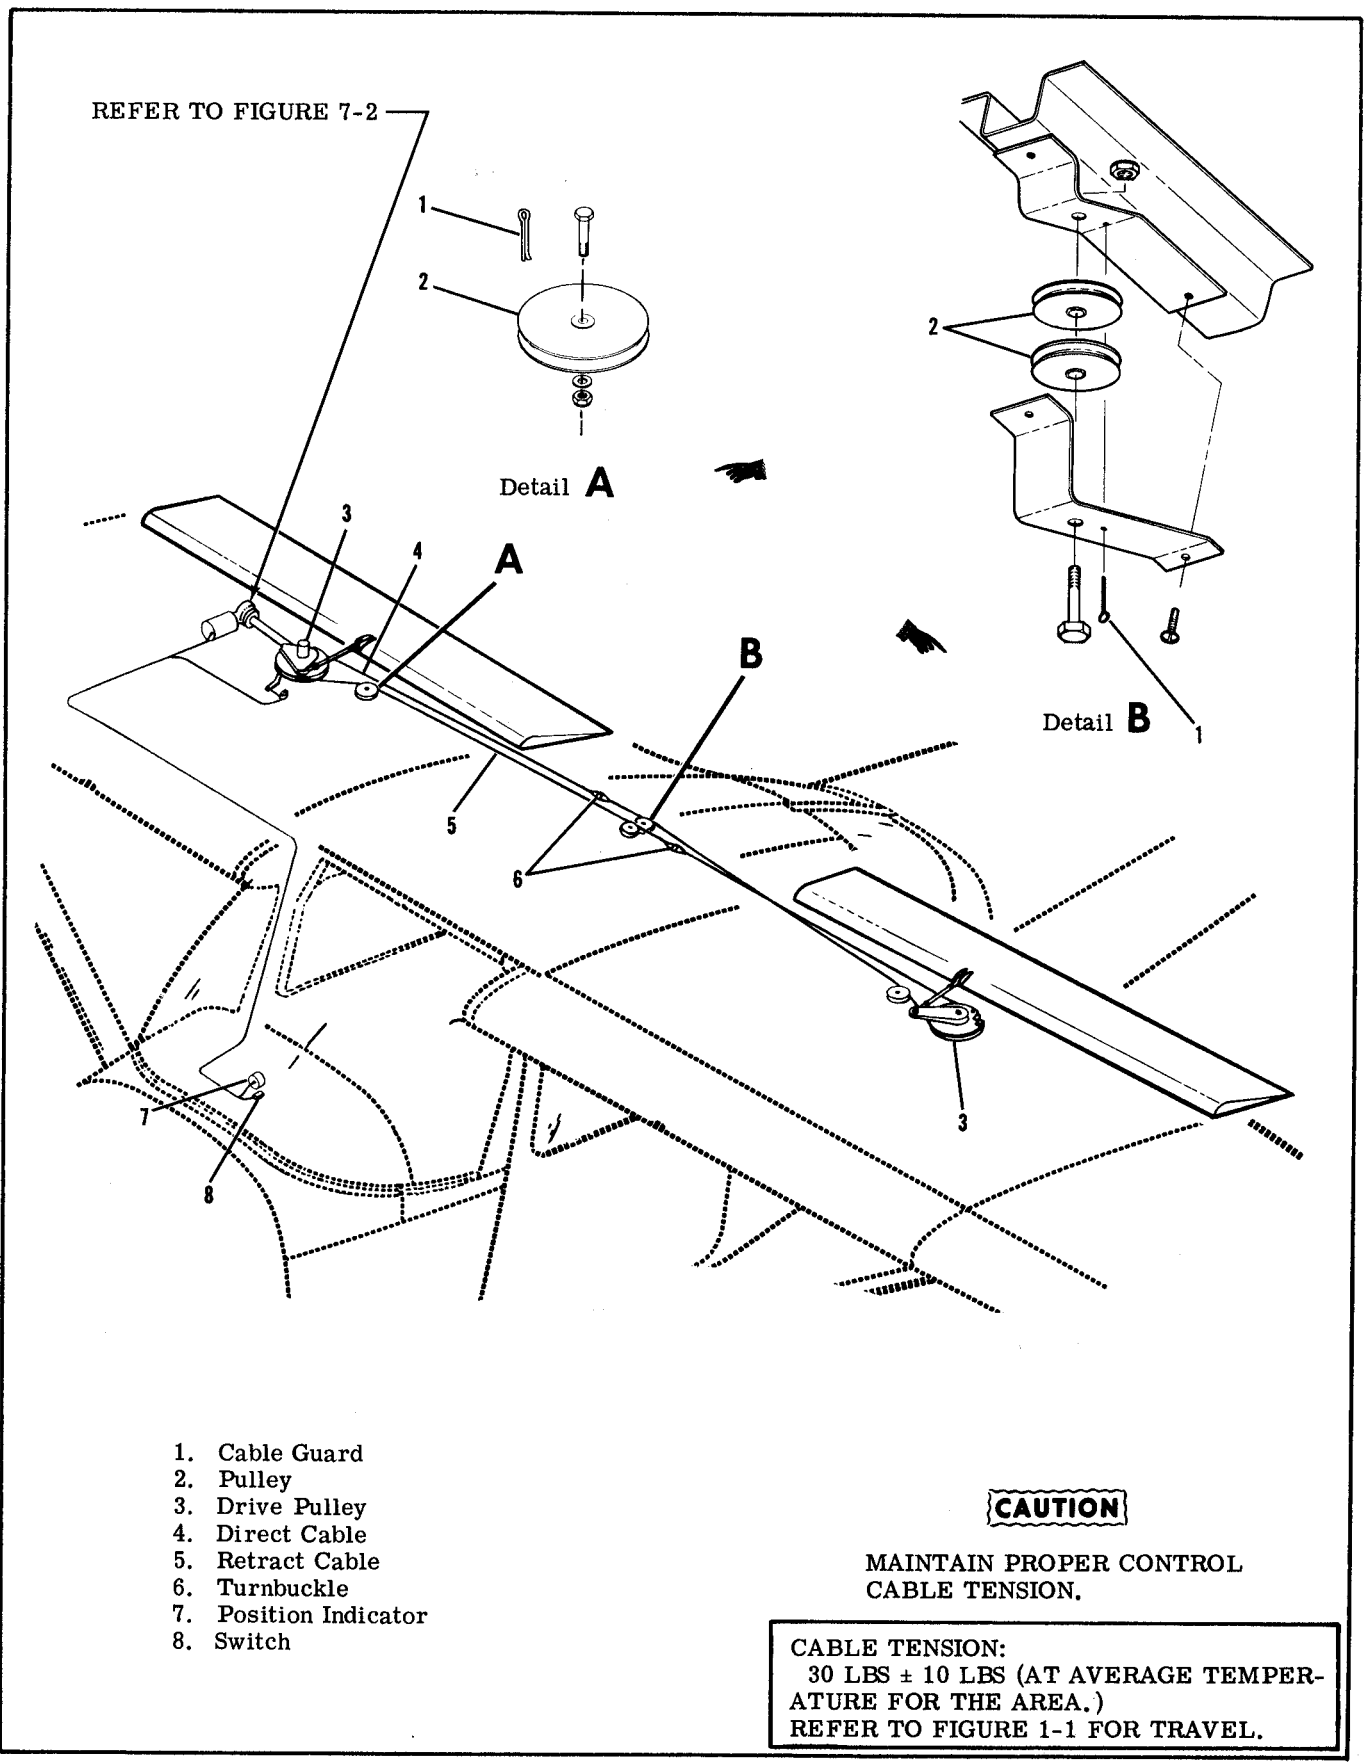

Figure 7-1. Wing Flap Control System
7-1. WING FLAP CONTROL SYSTEM. (Refer to figure 7-1.)
- a. Remove access plates adjacent to drive pulley (9) in right wing.
- b. Unzip or remove headliner as necessary for access to turnbuckles (index 6, figure 7-1), remove safety wire and loosen turnbuckles.
- c. Remove bolt (15) securing flap push-pull rod (10) to drive pulley (9) and lower RIGHT flap gently.
- d. Remove bolt (18) securing actuating tube (6) to drive pulley (9) and lower LEFT flap gently. Retain bushing.
- e. Remove cable locks (8) securing control cables to drive pulley (9). Tag cables for reference on reinstallation.
- f. Remove pin (17) attaching transmitter rod (14) to arm (16).
- g. Remove bolt (7) attaching drive pulley (9) to wing structure.
7-17. CABLES AND PULLEYS. (Refer to figure 7-1.)
- a. (Refer to figure 7-1.) Unzip or remove headliner as necessary for access to turnbuckles (6).
- b. Remove safety wire, relieve cable tension, disconnect turnbuckles (6) and carefully lower LEFT flap.
Temporarily connect cables at turnbuckles (index 6, figure 7-1) and test flaps by hand to ensure both flaps extend and retract together. If they will not, the cables are incorrectly attached to the drive pulleys. Ensure that the right drive pulley rotates clockwise, when viewed from below as the flaps are extended. Tag cables for reference and disconnect turnbuckles again.
- l. With flaps in full UP position, loosen setscrew (27) and slide up-limit switch adjustment block (28) on support (31) to operate switch (29) and shut-off electrical power to motor at this position. Tighten setscrew (27).
- m. Manually hold LEFT flap full UP and connect control cables at turnbuckles (index 6, figure 7-1). Remove reference tags previously installed in step